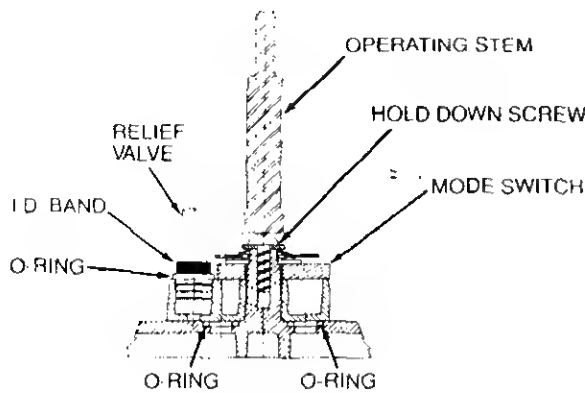

FIGURE 13
10.1 Mode Selector Switch (Fig. 13) [All models]
10.2.2 If you suspect malfunction, replace with a new relief valve (Fig. 13). Since the relief valve is held in place by the friction of its O-ring, you can remove it by pulling straight up out of the mode switch housing. Check the I.D. band to be certain that you are replacing the faulty safety relief valve with the correct valve for your unit.